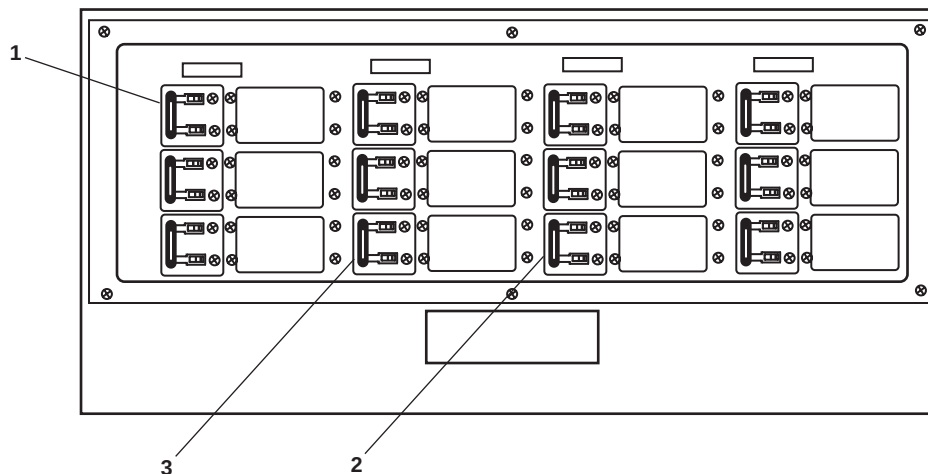

Figure 8. General Alarm and Emergency Lighting Distribution Panel
1. At the general alarm and emergency lighting distribution panel, set to OFF the STALK LIGHTS (figure 8, item 1) and PILOTHOUSE ILLUMINATION (figure 8, item 2) circuit breakers. Lock out and tag out (FM 55-502).
1. At the general alarm and emergency lighting panel, set to OFF the PILOT HOUSE ALARM PNL circuit breaker (figure 8, item 3). Lock out and tag out (FM 55-502).
6. Set to ON the PILOT HOUSE ALARM PNL circuit breaker (figure 8, item 3).
7. Set to ON the PILOT HOUSE ALARM PNL circuit breaker (figure 8, item 3).
5. Set to ON the PILOT HOUSE ALARM PNL circuit breaker (figure 8, item 3).